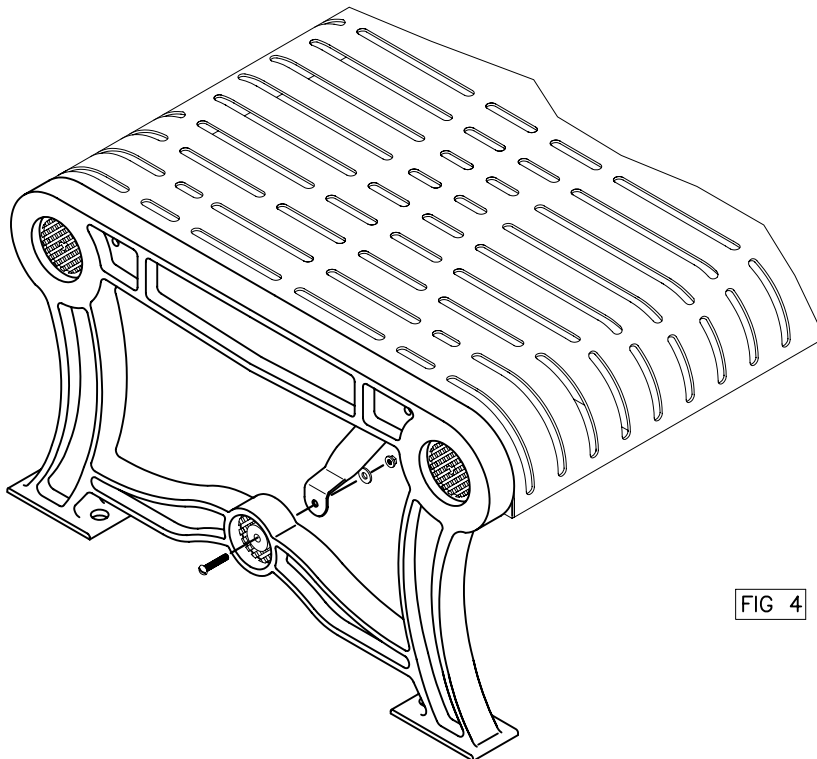

FIG 4
Remove the bench from the object, level the bench, attach brace (B3) or (B4) to legs (B2) with one (D), (J), (F) and (E). Join braces (B3) or (B4) in the middle on the low profile bench (A-) with one (C), two (E) and one (F) and (J), see FIG. 4.